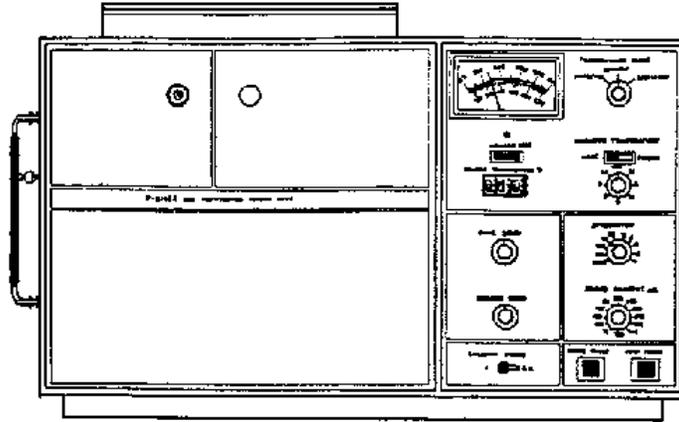

Figure 1. Fisher gas partitioner Model 1200
1. Fisher gas partitioner Model 1200, with dual thermal conductivity cells and dual in-line columns. Column No. 1 is 6-1/2 ft × 1/8 inch, aluminum packed, with 80-100 mesh Columpak™ PQ. Column No. 2 is 11 ft × 3/16 inch aluminum packed with 60-80 mesh molecular sieve 13× (Fig. 1).